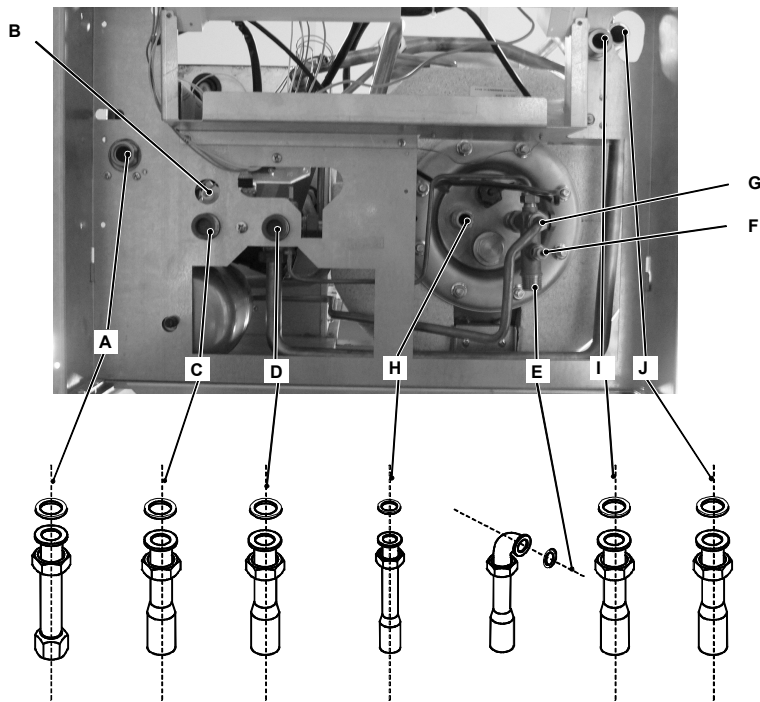

Figure 10.1
The Riva boiler is supplied with a 3/4" stainless steel gas pipe (A in figure 10.1), 4 - 3/4" copper pipe (C,D,J,K in figure 10.1), 2 - 1/2" copper pipe (E,H in figure 10.1), located in a plastic bag in the boiler package.
- Remove the protective caps off boiler connections (Figure 10.1).
- Attach the supplied components to the boiler connections (see Figures 10.1). Be sure to use the proper gaskets for the pipe connections.